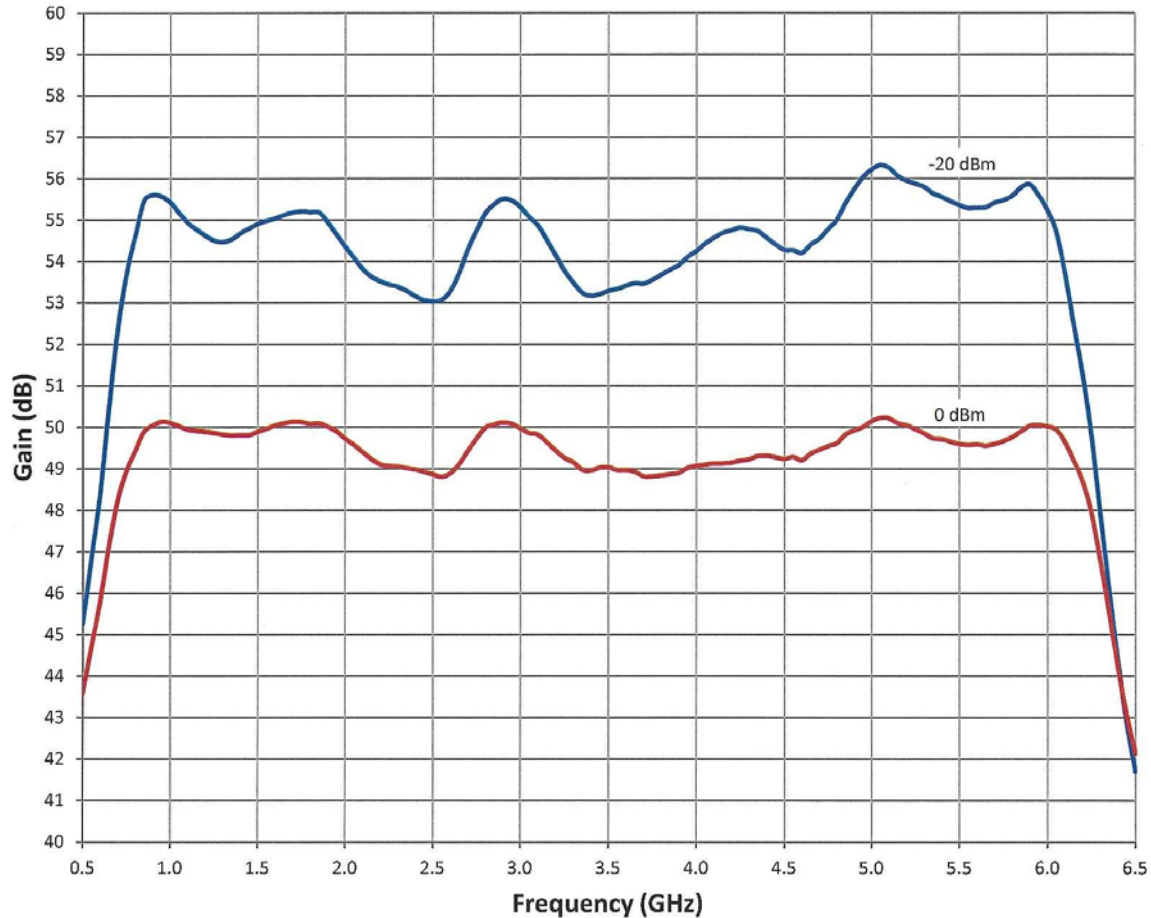
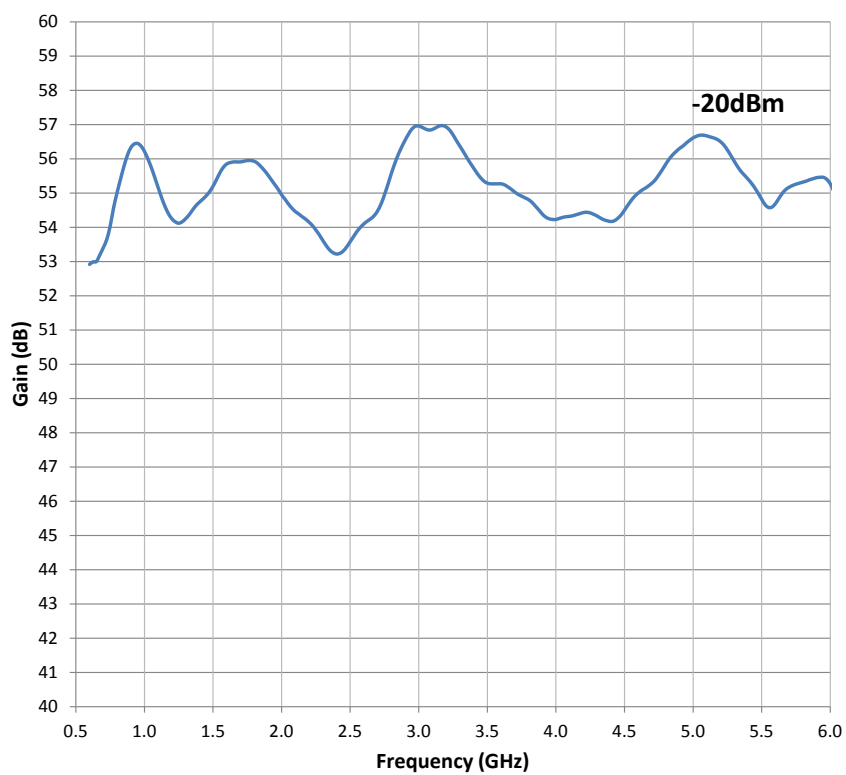
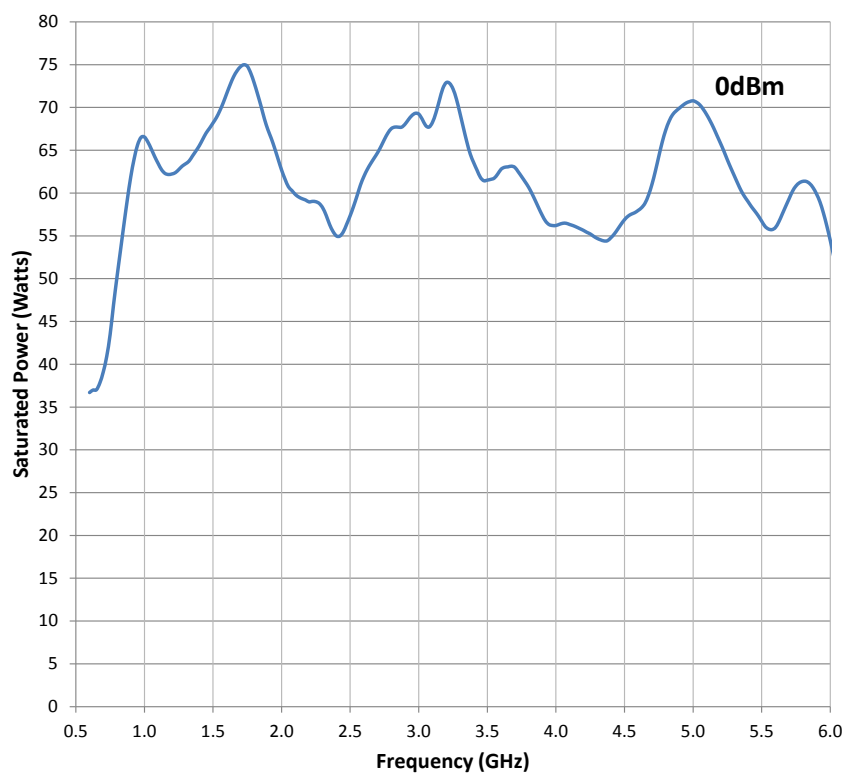

Figure 4-1. Typical Response at 0 dBm Input and -20dBm Input
Figure 4-2. Gain at $P_{IN} = -20\text{dBm}$
Figure 4-3. P_{SAT} at $P_{IN} = 0\text{dBm}$
1. The Model 50S1G6AB's typical gain response at 0 dBm input and -20 dBm input is shown in Figure 4-1. The actual gain may vary considerably from that shown in Figure 4-1 but should be ≥ 47 at 0dBm input. Figure 4-2 shows the gain at $P_{IN} = -20\text{dBm}$ and Figure 4-3 shows the P_{SAT} at $P_{IN} = 0\text{ dBm}$.